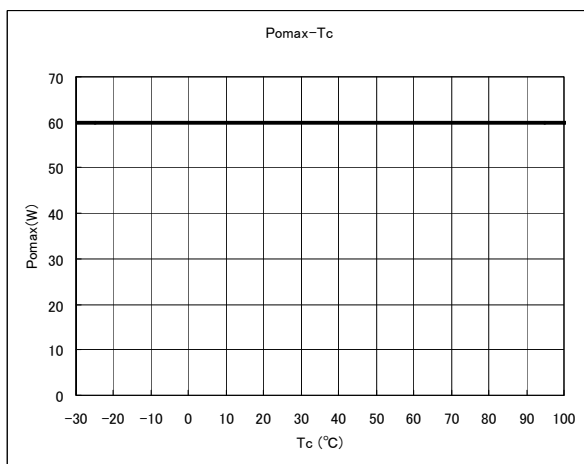
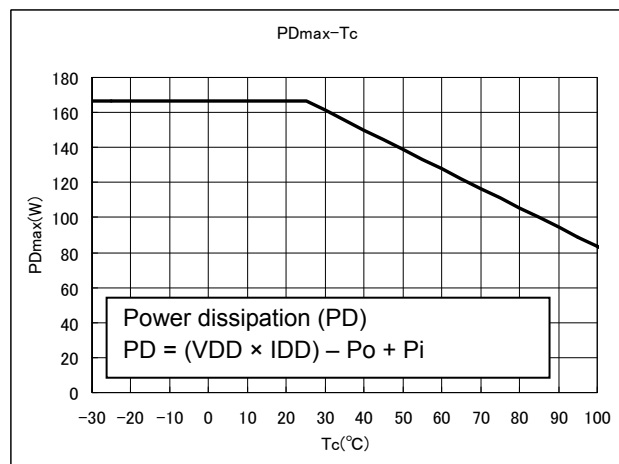

Figure.1 P_{omax}-T_c
Figure.2 P_{Dmax}-T_c
Note 2: The output power rating satisfies the range shown in Figures 1 and 2 according to the operating case temperature. Ensure that the device should be operated within the specified operating range. The figures below indicate the output power obtained 2 seconds after P_o is generated.
*When the device is used at T_c = 100°C, the output power rating is 60 W as shown in Figure 1. When the power dissipation at T_c = 100°C exceeds the rating shown in Figure 2, the output derating is required to limit the dissipation within the specified range.
Note 5: The output power is intended to follow the rating provided in Figure 1 in Note 2.